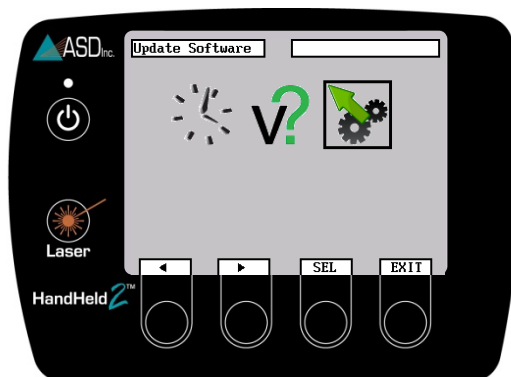

Figure 2-41: Update Software icon
- Step 4 Navigate to the Update Software icon and press the *SEL* button (Figure 2-41).